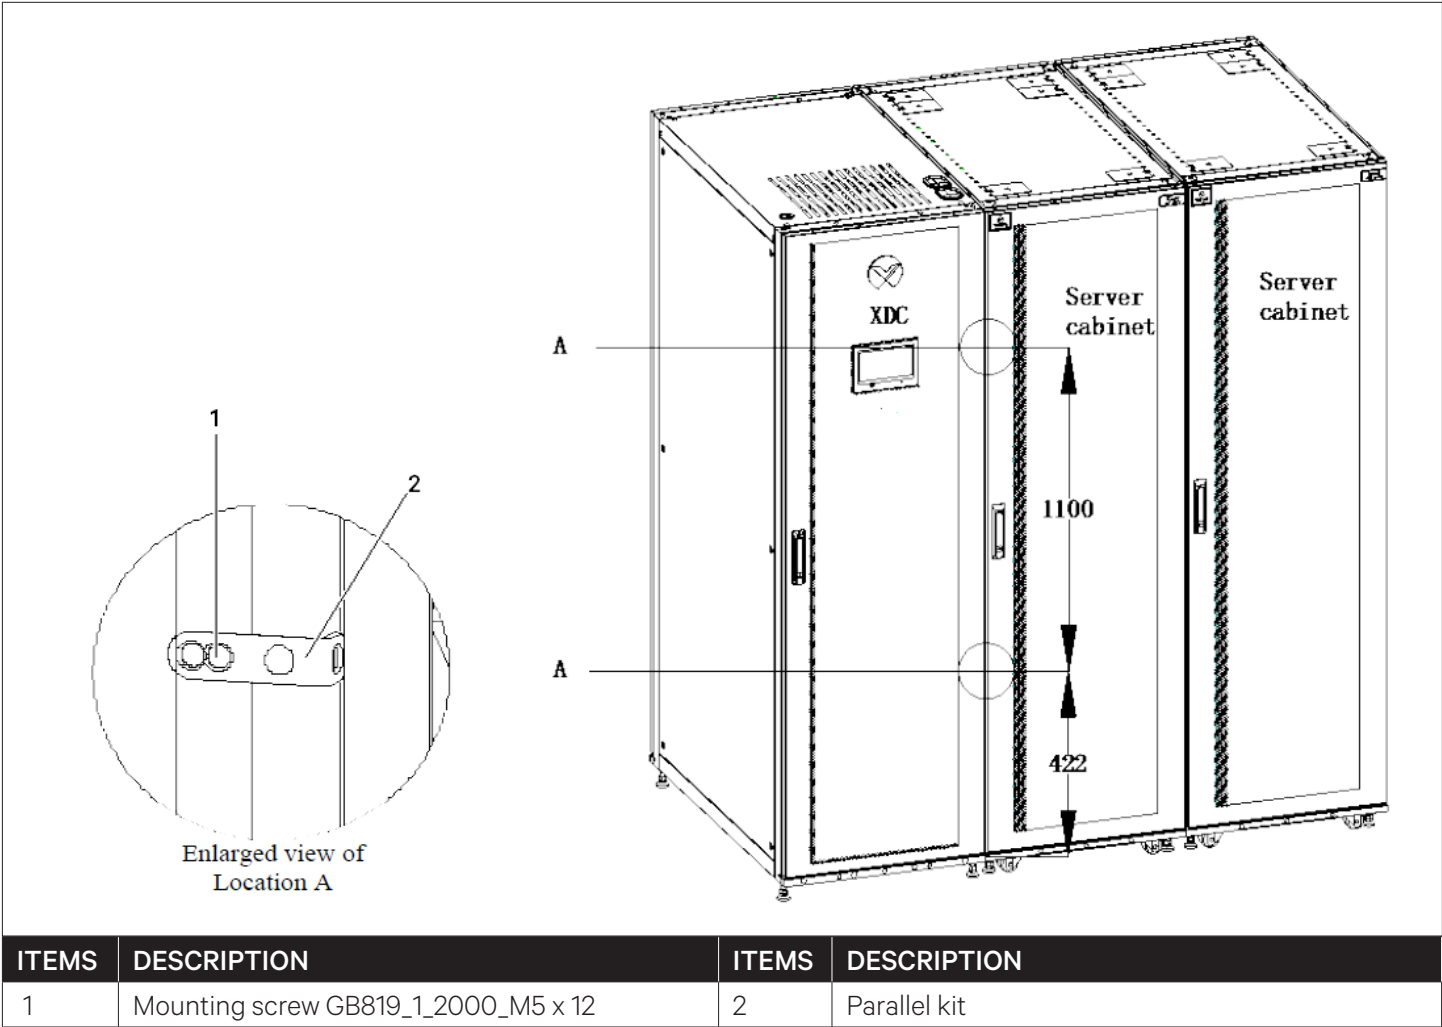

Figure 2-13 Connecting the Unit and Server Racks in Parallel
- 1. Remove the L-shape combined cabinet part from the unit accessories kit. Figure 2-13 shows position A (left) of the L-shape combined cabinet parts.
- 2. Use M5 countersunk screws to fix the cabinet parallel connecting parts (L-shaped) on the unit frame (hinge side) and the installation holes of the adjacent server rack, as shown in Figure 2-13.